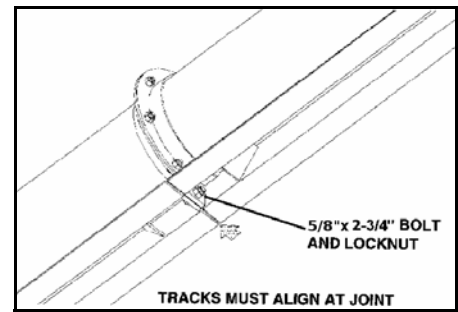

**Figure 3.2**
3. Slide lower flight shaft onto upper flight shaft until flight ends butt together and flighting spiral matches up (Figure 3.2). Secure with hardware in Table 3.1. Repeat, if necessary, for any remaining flight shafts.